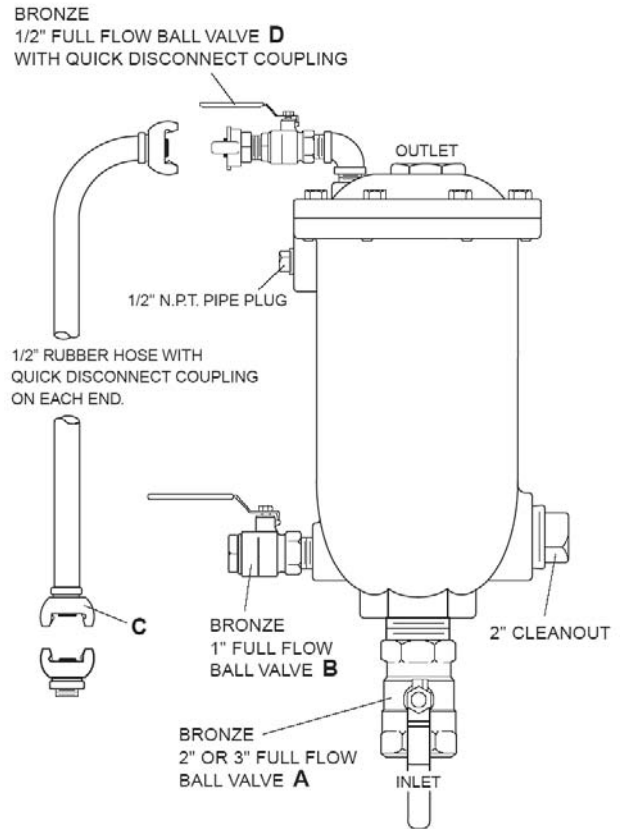
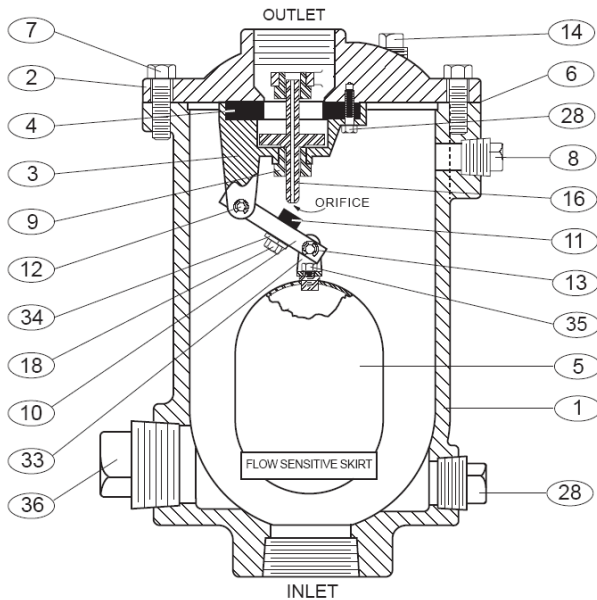

FIGURE 3. BACKWASH HARDWARE
FIGURE 4. VALVE ASSEMBLY
Refer to the Figure 3 for the correct piping arrangement. Please note the each Kit contains extra fittings such as reducer bushings that may not be needed for your valve. The fittings should be installed with a standard pipe compound such as Oatey White Thread Sealant (supplied) or sealing tape. The quick disconnect fittings (Air King Universal Couplings) are designed for easy push and turn connections to a clean water source.
Backwash Procedure: In order to properly backwash the valve, a 1" clean water supply of at least 30 psi is needed. This supply should be connected to the rubber hose with quick disconnect couplings as provided with the wastewater valve and shown in Figure 3.
1. See Figure 3. Close inlet shut-off valve (A). Open drain valve (B) or remove drain plug. See Figure 4. Remove the cover bolts (7) on the top cover.
2. Pry cover (2) loose with sharp chisel or screwdriver and lift off valve body. The float will be connected to the cover.
3. Remove the retainer screws (28) and inspect the seat (4) and button (11) for cracks in the rubber or wear in the sealing surfaces.
4. Remove the plug (16) from the baffle (3). The small orifice through the plug should be clean. The plug shaft and bushing (9) ID should be polished clean with 4x0 steel wool or 320 grit polishing compound.
5. Turn guide bushing (9) to remove it from the baffle. Remove the retainer rings (13) to disassemble the float arm assembly.
All parts must be cleaned and gasket surfaces should be cleaned with a stiff wire brush in the direction of the serrations or machine marks. Worn parts, gaskets and seals should be replaced during reassembly. Refer to Figure 4.